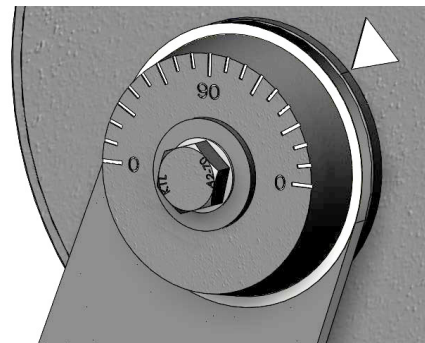

Fig 12
- 10) The completed assembly is ready to be bolted down by the bracket arm. Each (3M) Three Module unit weighs around 50 pounds, so use appropriate fasteners to accommodate the weight of the fixture no matter what the final fixture installation orientation may be. **Fig 12**